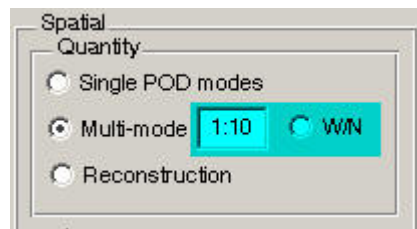

Figure 15: Multi-mode controls.
- **Multi-mode** – the result is a linear combination of POD modes, defined by the user in the vector of indices of modes. The combination could be of consequent or randomly selected modes (i.e. from 1 to 5 or 1,2,5, for example). In addition, the toolbox allows calculating the sum of the selected modes or their linear combination by using their respective eigenvalues. The latter option is called weighted version and realized by checking the radio-button  W/N (the short version of Weighted/Non-Weighted). The default is a regular sum (Non-weighted version) and checking the radio-button will show the weighted version. When working in 'Multi-mode', following controls are becoming available (Figure 15)